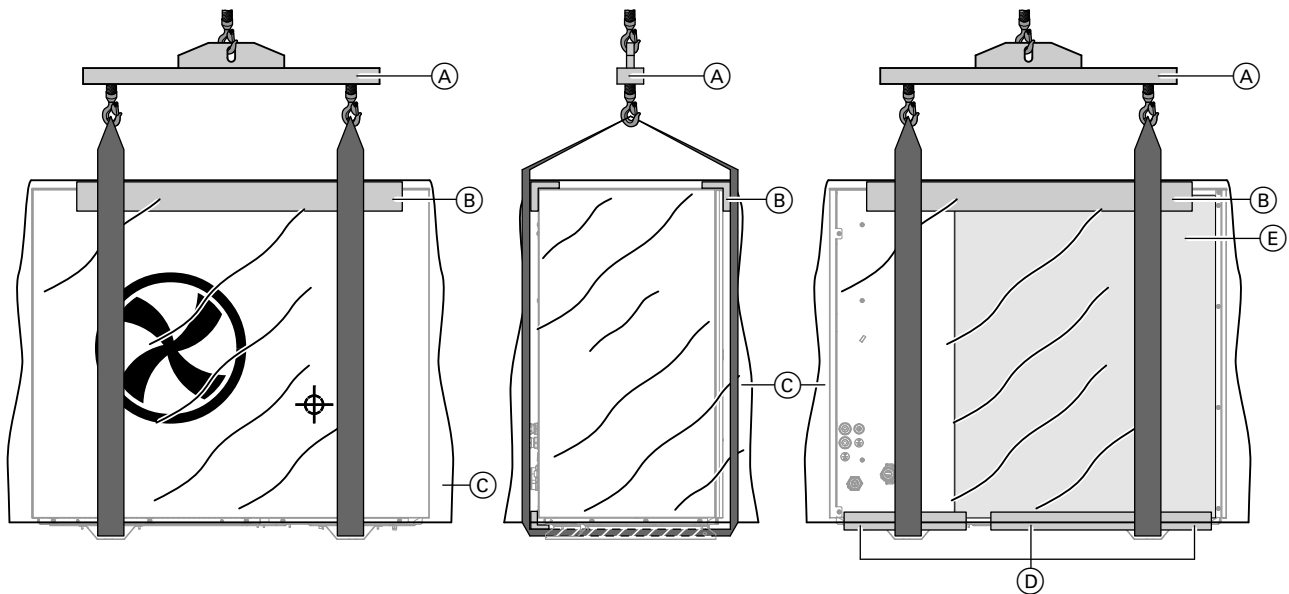

Fig. 3
3. Position the edge protection profiles on site at the front and rear upper edges of the outdoor unit. Guide the slings correctly through the outdoor unit supports: See Fig. 3.